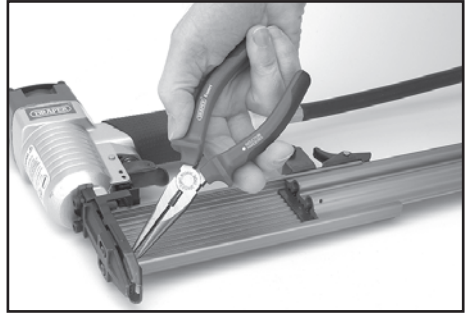

FIG.11
10.3 CLEARING A JAM – FIGS. 11 - 13